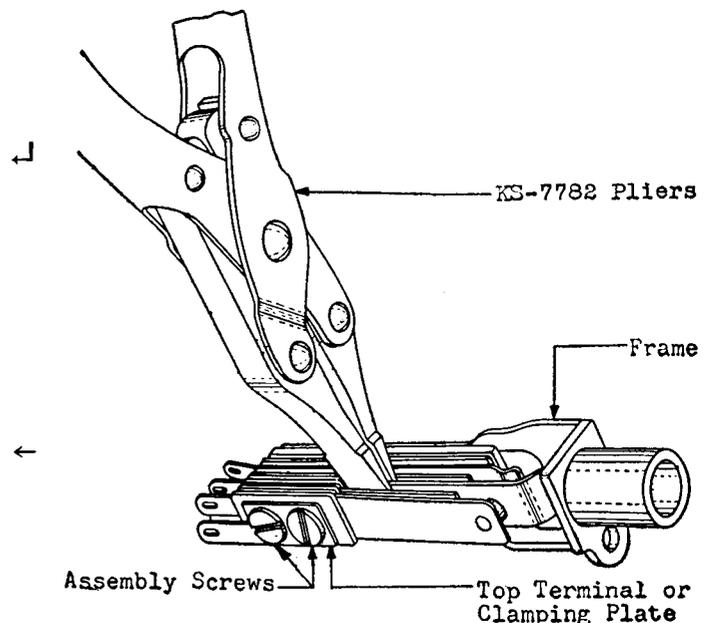

Fig. 4—Method of Adjusting Spring Tension and Contact Pressure
- (1) Adjust the springs for spring tension, ← contact pressure, spring clearance, stud clearance, or contact sequence with the KS-7782 or KS-6015 pliers applied at the rear of the spring where it leaves the insulators as shown in Fig. 4. In those cases where there is insufficient spring separation to permit the use of the KS-7782 or KS-6015 pliers, loosen the spring assem-